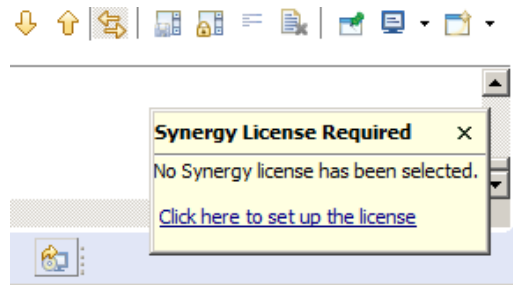

**Figure 2.8 Import Existing Project dialog 2**
12. Select the Project to import from the list of Projects (Figure 2.8).